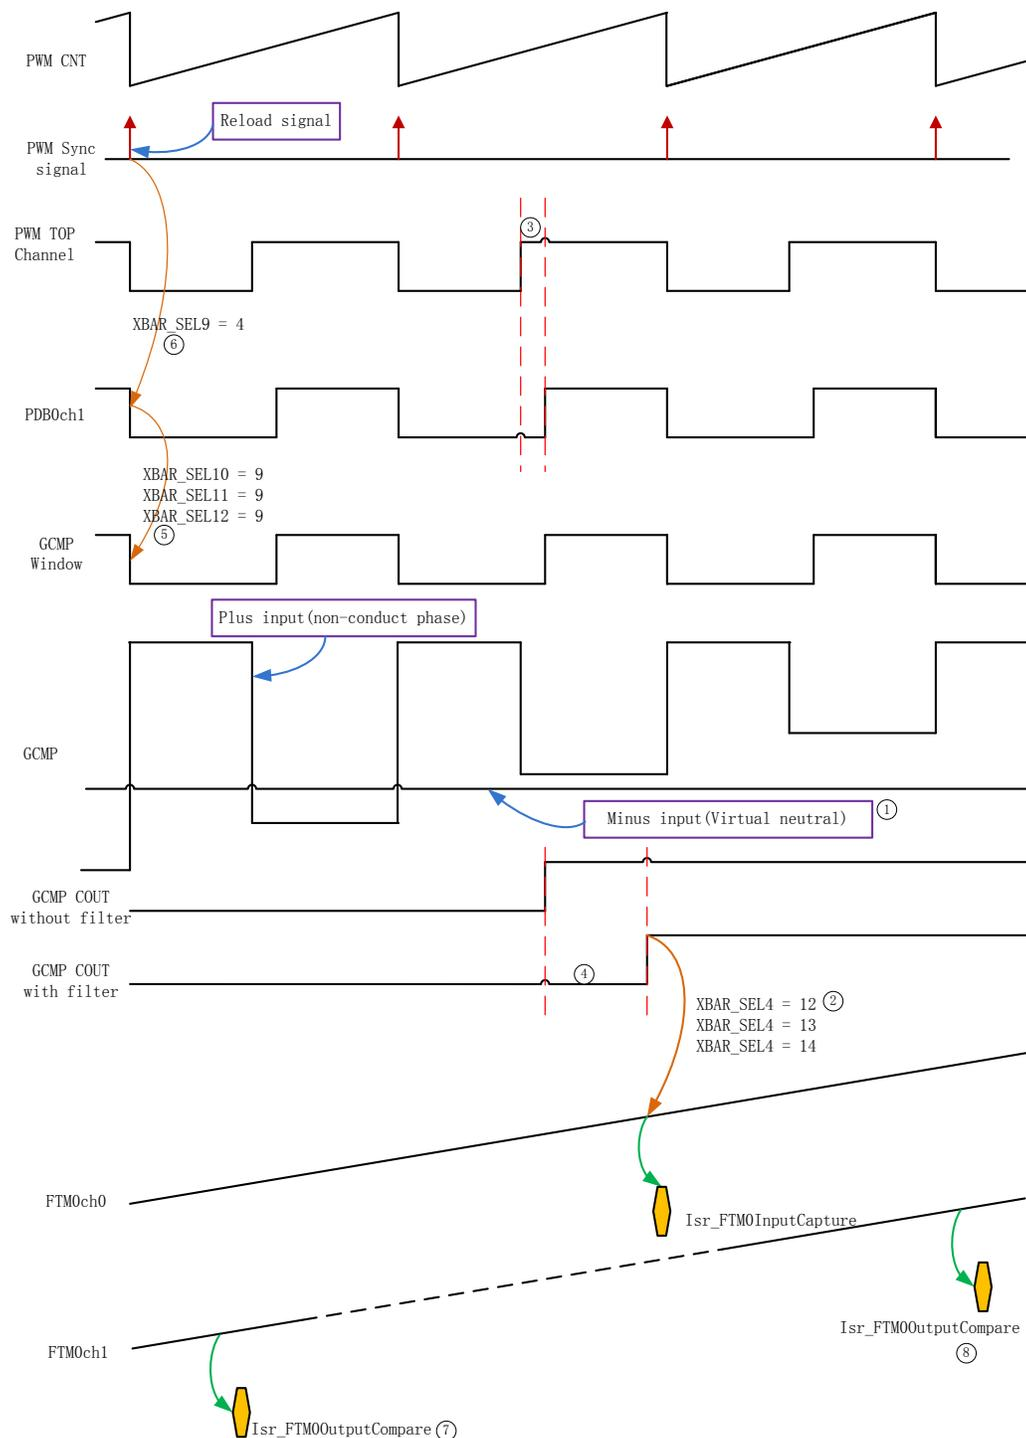

Figure 11. Zero-crossing detection & communication timing diagram
Figure 11 is zero-crossing detection and commutation timing diagram. If the comparator is used to detect zero-crossing point, the window function for comparator is used to avoid incorrect zero-crossing point detection.
5. The window function is generated by PDB0ch1. The synchronization between this two peripherals is realized by XBAR peripheral, described in *Figure 11*.
6. PWM and PDB0 are synchronized with the XBAR peripheral, described in *Figure 11*. PWM reload signal is generated in every PWM period in this application.
7. The FTM0ch1 output compare interrupt (ZC Detection state = current recirculation) time is obtained through calculation, not aligned to actual time points in *Figure 11*.
8. The FTM0ch1 output compare interrupt (ZC Detection state  $\neq$  current recirculation) time is obtained through calculation, not aligned to actual time points in *Figure 11*.